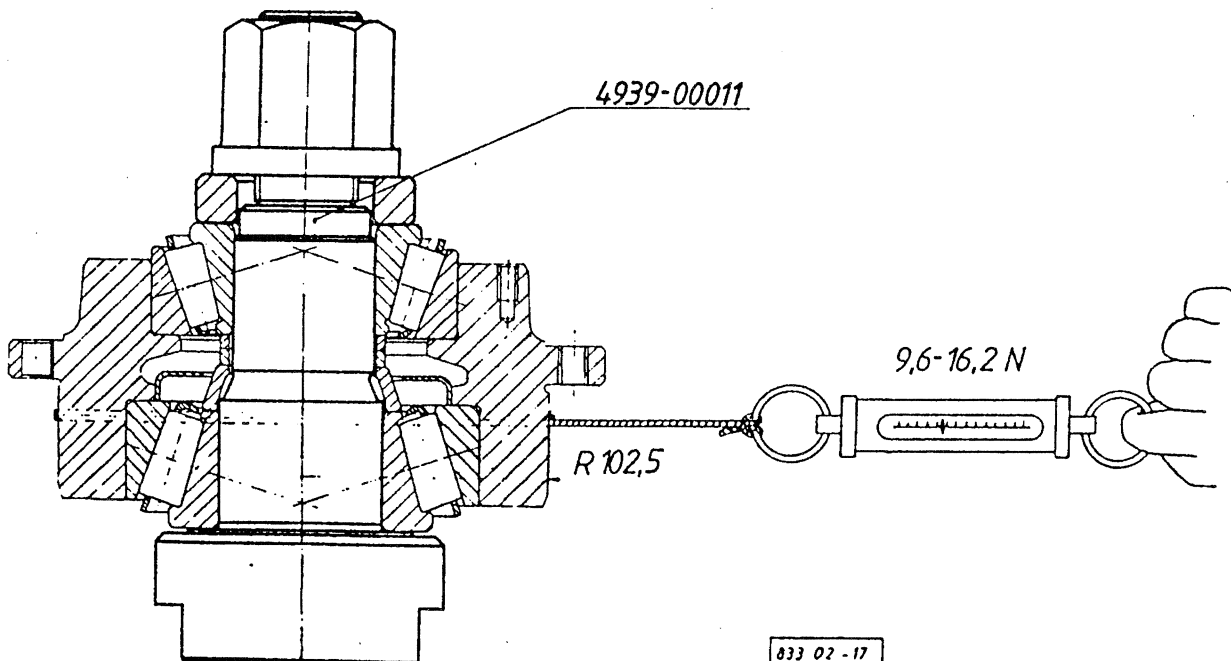

Fig. 6.: ADJUSTING THE BEARING PRELOAD
The distance between the outer taper roller bearing cone and the distance sleeve may vary between **18.89 and 14.715 mm**. This distance should be determined by measurement for selecting the proper distance ring (10). (Dimension X in Fig. 6.).